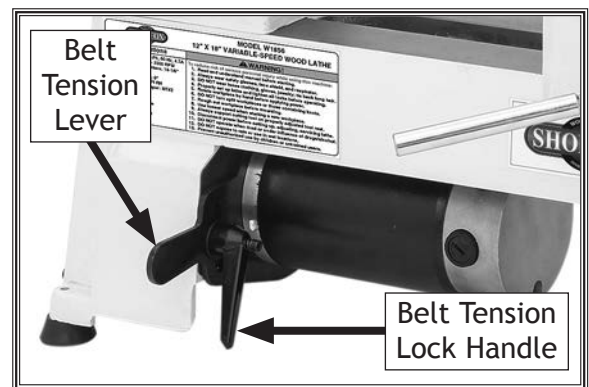

Figure 22. Location of belt tension lever and lock handle.
3. Loosen belt tension lock handle, then lift belt tension lever all the way up and tighten belt tension lock handle (see Figure 22).